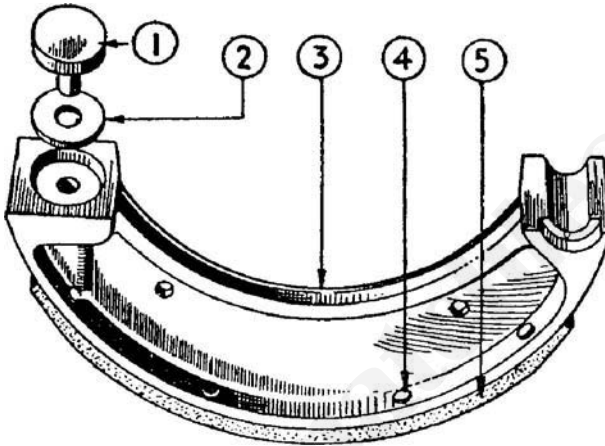

FIG. 66. SHOWING 1948-57 BRAKE SHOE WITH THRUST-PIN ADJUSTMENT
Brake Shoe Adjustment (1948-57 Models). Fig. 66 shows the improved deep-section brake shoe provided for the front and rear brakes on 1948-57 models. It will be observed that the thrust collar formerly provided has been replaced by a hardened thrust pin. This renders a major brake adjustment very simple. It is effected in the following manner.
Referring to Fig. 66, it is necessary only to remove the thrust pin (1) from the brake shoe (S) and then fit a shim washer (2) beneath the hardened thrust-pin. Eight shim washers (Part No. 000174) are contained in the tool kit of each new A.J.S. to permit of adjustment if and when necessary.
KEY TO FIG. 66